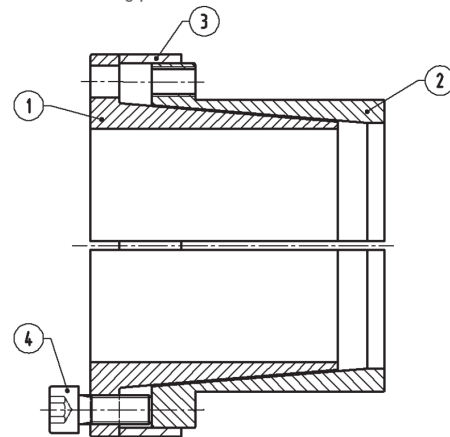

Figure 2
### REMOVAL (Refer to Figure 2)
2. Loosen locking screws in several stages by using approx. 1/4 turns, following either a clockwise or counterclockwise sequence. Transfer required number of screws into all push-off threads of clamp collar Item 1 (see Figure 2).